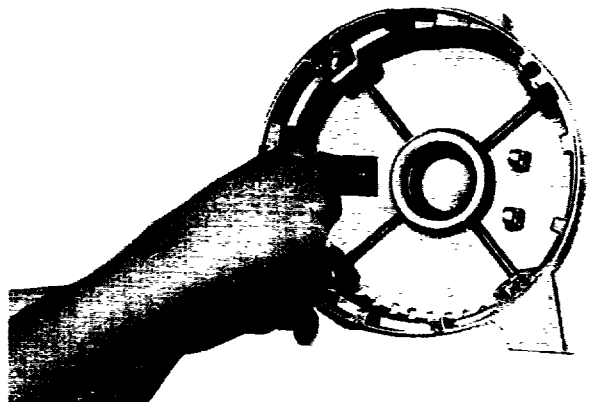

Fig. 10-21
- 1) Install the diode stack in the rear cover. (See Fig. 10-21.)